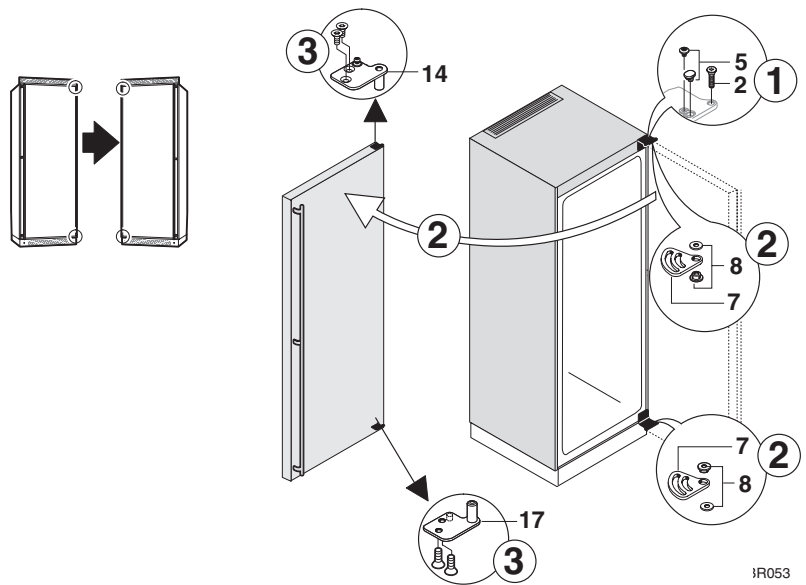

Figure 9
1. **Figure 9:** Top: Unscrew the hinge pin (2) and remove the screw (5) with the eccentric.
2. Swivel out the door at the top, ensuring that you do not lose the stop (7) and bushing (8) up and down; lift off the door and place it on the floor.